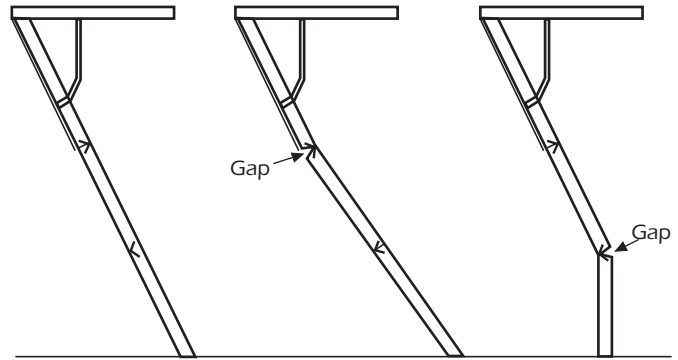

Fig. 9 - Correct Fig. 10 - Too Long Fig. 11 - Too Short
sections should form a straight line. (See Figure 9 for correct stair alignment.)
Step 12- Check to make sure of proper length. Standing on second step of the bottom section, the stairs should fit flush with the floor and all joints should be tight with no gaps (Fig. 9). If the stairs are too long (Fig. 10), trim them again. If the stairs are too short (Fig. 11), do not use them. The bottom section will have to be replaced. Contact your vendor or The American Stairway Company.